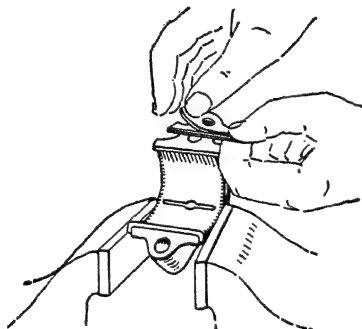

Fig. 7. Peeling Laminated Shims When Adjusting Connecting-Rod Bearings
**Adjusting Shimmied Connecting Rods.** Not all connecting rods are provided with shims. Where shims are provided, the most popular form is what is termed laminated shims, such as illustrated in Fig. 7. These shims are made of thin strips of brass sweated together. As a rule the thinnest layer of lamination is approximately .001 inch. Successive layers may be of this same thickness or thicker.
be pulled off, one at a time, and a thin layer peeled off as suggested in Fig. 7, after which the shim is replaced in exactly the position it occupied originally. When both shims have been peeled, the cap is reinstalled and the connecting-rod bolts are drawn up tight. As a rule this work is done without removing the connecting rod from the engine, simply dropping the crankcase so as to have access to the connecting rods. Having removed a thin layer of shim and tight-